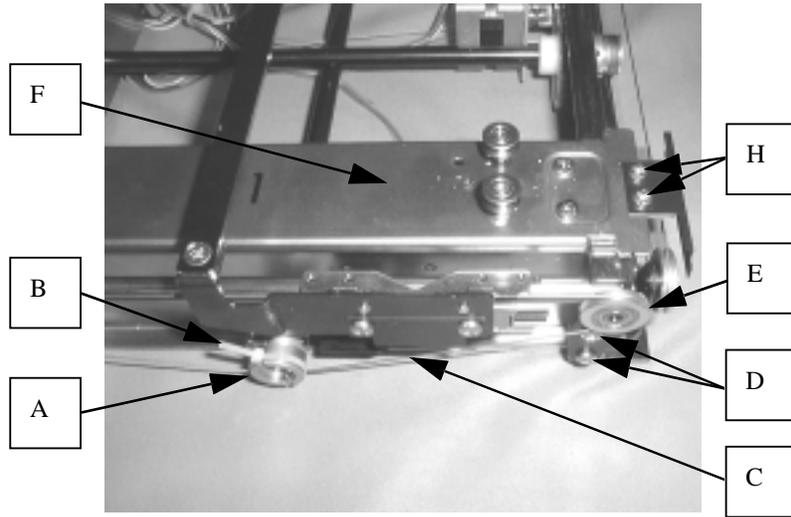

FIGURE 14-1
1. Perform steps (1)-(3) in par.13.
2. Fix the wire (C) to pulley (A) securely by using grip band (B) as shown in Fig.14-1. Loosen setscrews (D), and disconnect wire (C) from wire pulley (E).